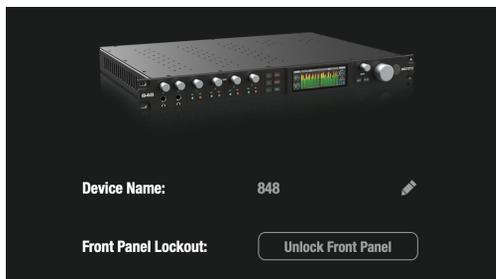

Figure 5-11: Disabling Front Panel Lockout mode in the Device tab in CueMix Pro.
- In CueMix Pro, go to the Device tab and click the *Unlock Front Panel* button (Figure 5-11).